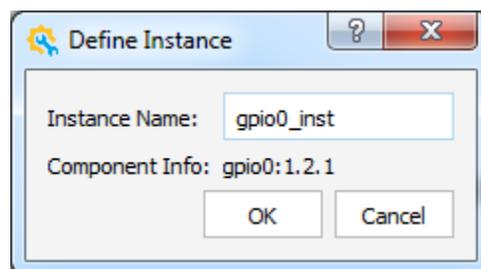

Figure 2.18. Design Instance Dialog Box
- Click **Finish**. The **Define Instance** dialog box opens (Figure 2.18).